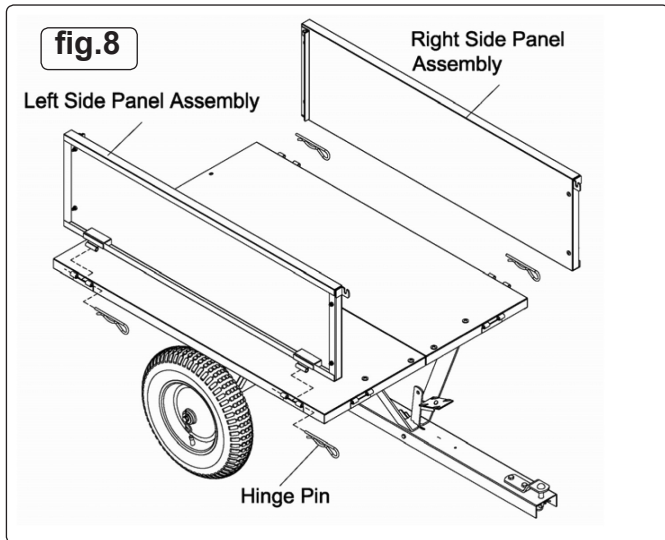

fig.8
- 5.8.1 Attach the left and right side panel assemblies to the bottom panel using the four hinge pins as shown in fig.8.